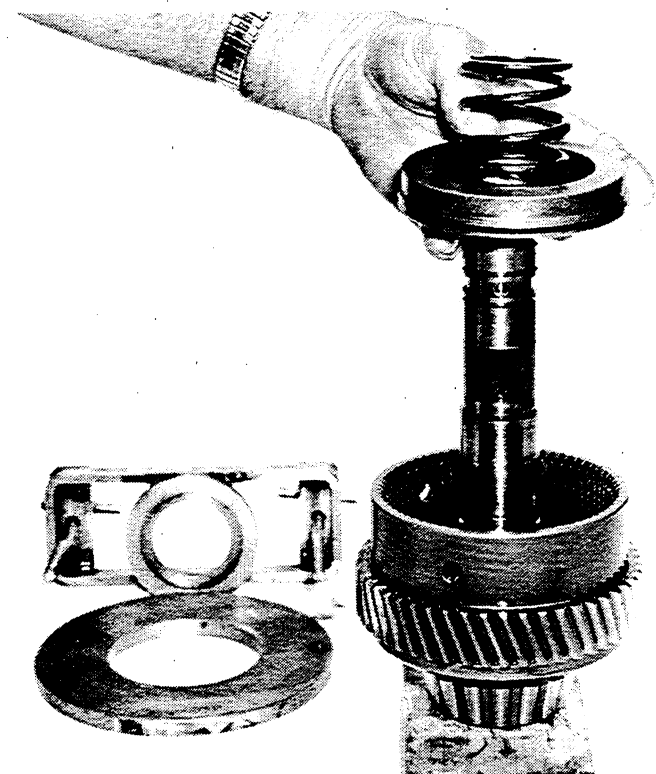

Figure 8-8. *Removing or Installing Clutch Piston and Return Spring.*
10. Remove the clutch piston (Figure 12-3, 3) and piston return spring (10). See Figure 8-8.
2. Install a new piston ring (4) onto the clutch piston (3) and install the clutch piston.
3. Install piston return spring (10). See Figure 8-8.